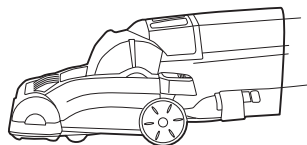

Fig. 4
4. Low position - for cleaning under furniture (Fig. 4).
3. Loop the new belt around the drive shaft (Fig. 3) and the raised ring between the bristles on the brush roll (Fig. 4).